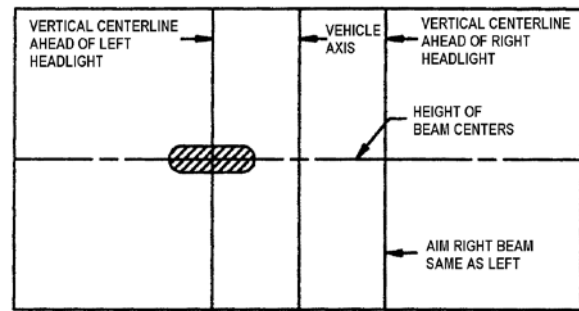

FIGURE 48: UPPER BEAM HIGH-INTENSITY ZONE PROPER LOCATION ON SCREEN
- High beam headlights are aimed so that the center of the high-intensity zone is located at the horizontal and straight ahead vertically (Figure 48).